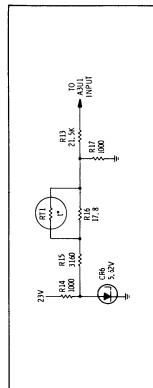

Figure 8-12. Simplified Temperature Compensation Circuit
a. Temperature Compensation. At the temperature of the Yig filter rises, the resonant frequency tends to decrease at a rate of approximately 3 MHz/°C. An increase in temperature decreases the resistance of thermistor A3R10. The Yig driver output is a current proportional to the input voltage. The amplifier output then goes positive, which raises the Yig frequency, compensating for the drop caused by increasing temperature. A simplified schematic of the temperature compensation circuit is shown in Figure 8-12. This circuit gives some offset current. This offset is removed by the offset compensation circuit, having only the changes from 25°C to be corrected by the temperature compensation circuit.